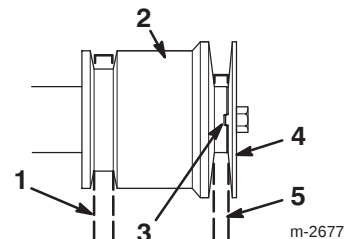

Figure 27
Note: Do not to pinch the traction drive belt (Fig. 27).
15. Install the engine pulley sheave, ensuring that the indexing rib in the engine pulley sheave aligns with the indexing notch in the engine pulley (Fig. 27).
16. Install the washer, lock washer, and crankshaft bolt that secures the engine pulley sheave (Fig. 27).
Note: Do not to pinch the auger/impeller drive belt (Fig. 27).
- Note:** Ensure that the indexing rib in the engine pulley sheave aligns with the indexing notch in the center engine pulley. Do not pinch the belt (Fig. 27).